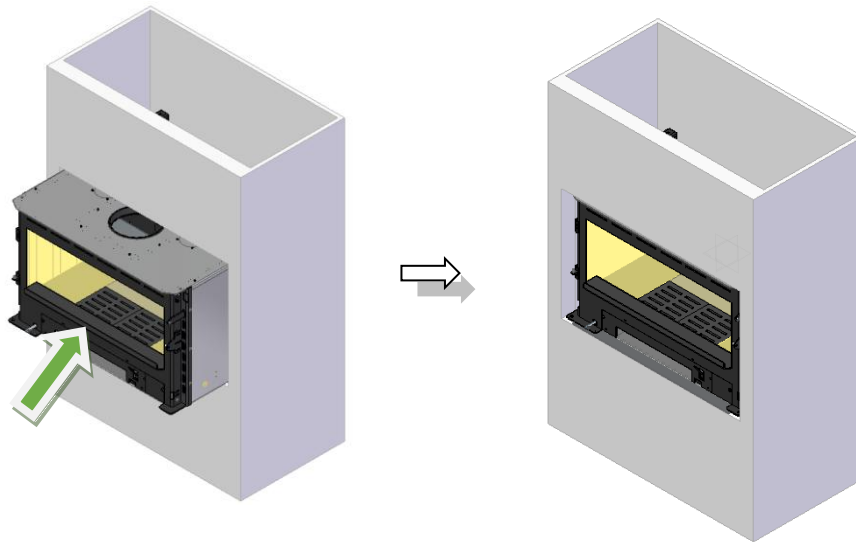

Figure 13 - Placing the equipment on site
10. You can then insert the equipment into place, as shown in Figure 13.